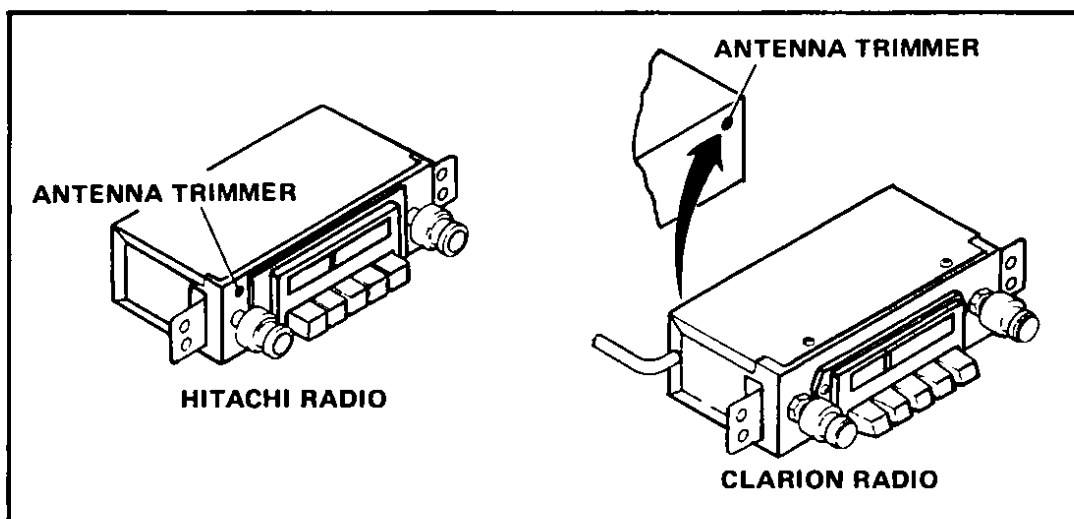

Fig 71 Antenna trimmer adjusting screw – Model B210
- 12 Adjust the antenna trimmer as follows, Fig 71